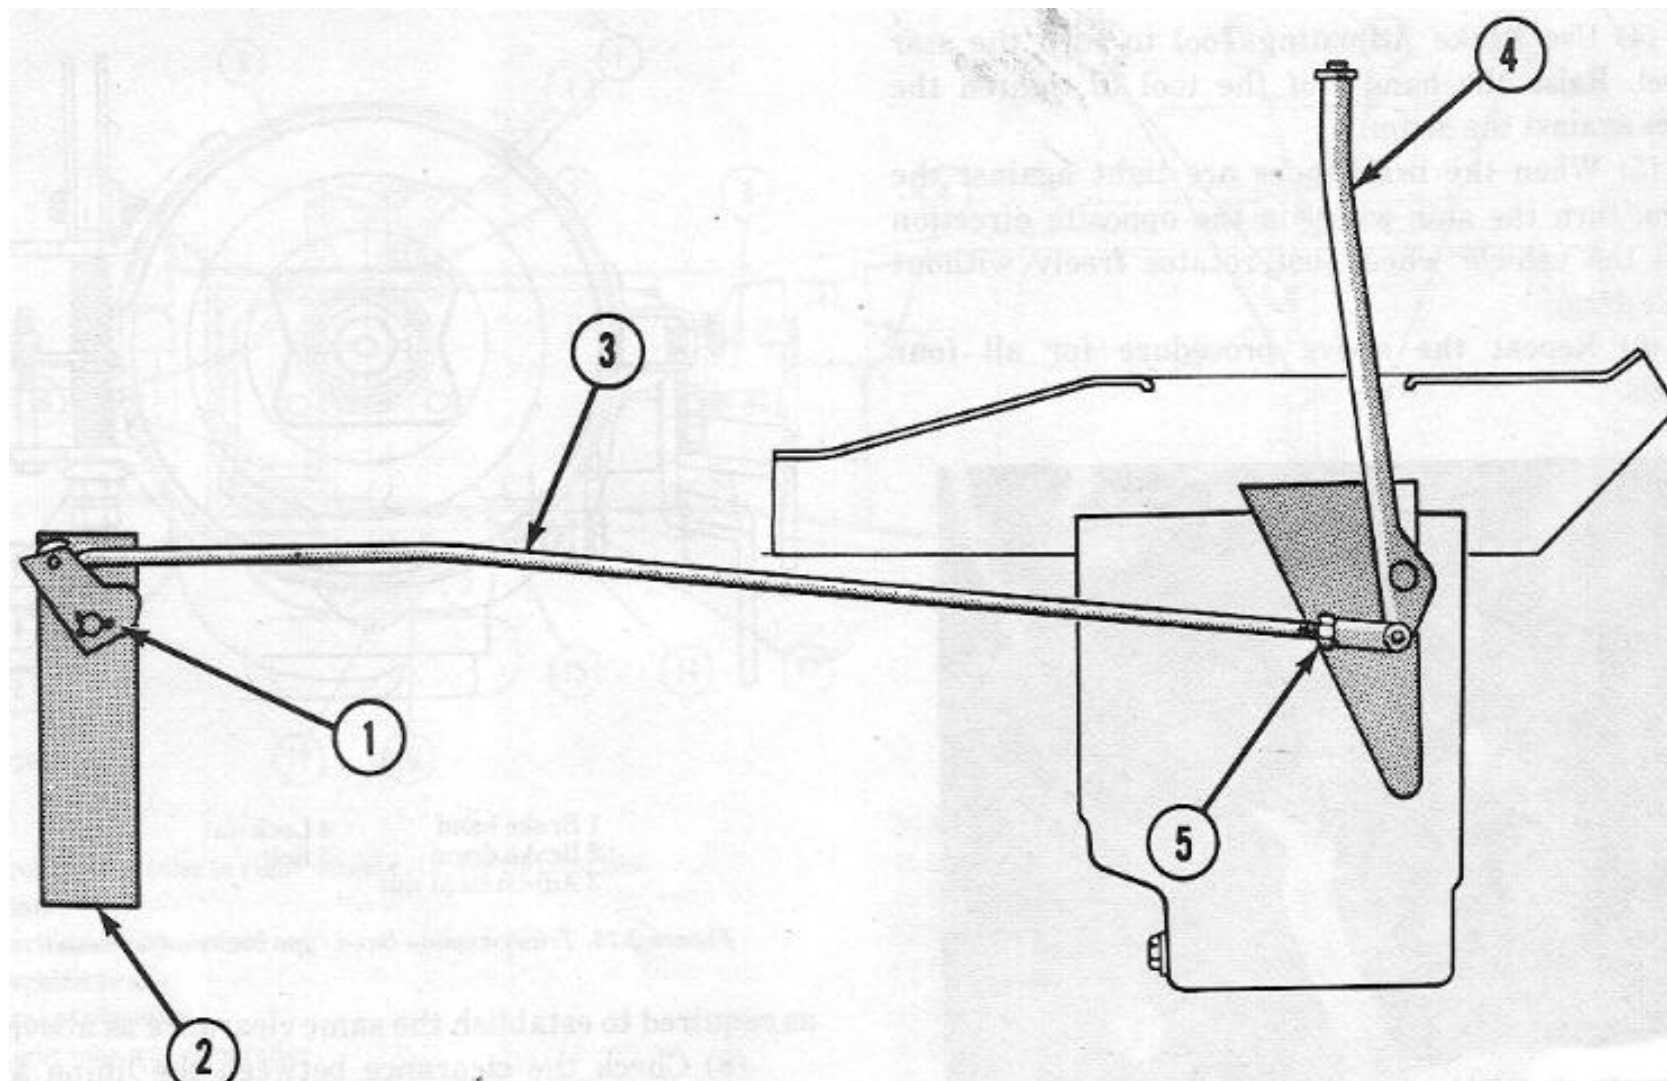

Figure 2-80. Handbrake linkage.
(10) Adjust the handbrake control rod before connecting it to the cam levers,
c. Adjust Hand brake Control Rod (Fig 2-80)
(1) With the brake control rod detached from the cam levers, loosen the nut at the yoke end of the brake control rod and turn the rod in the yoke until the eye of the rod is in alinement with the clevis pin holes in the two cam levers.
(2) Attach the control rod to the cam levers with the clevis pin and cotter pin.
(3) Tighten the nut against the yoke.
(4) With the brake band and control rod properly adjusted, the pawl should be engaged in the third to fifth notch of the sector for full application of the brake.